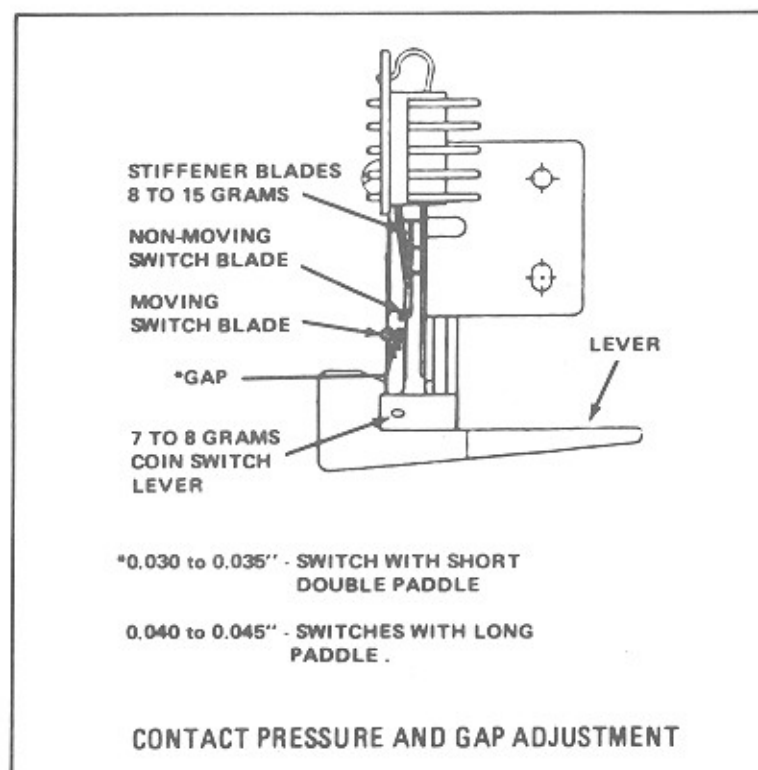

Figure 3-24. Contact Pressure And Gap Adjustment
1. Check that each moving switch blade pushes against its lever with 7 to 8 grams force to hold lever against cushion (See Figure 3-24.). To adjust pressure, bend the blade near its mounting point.